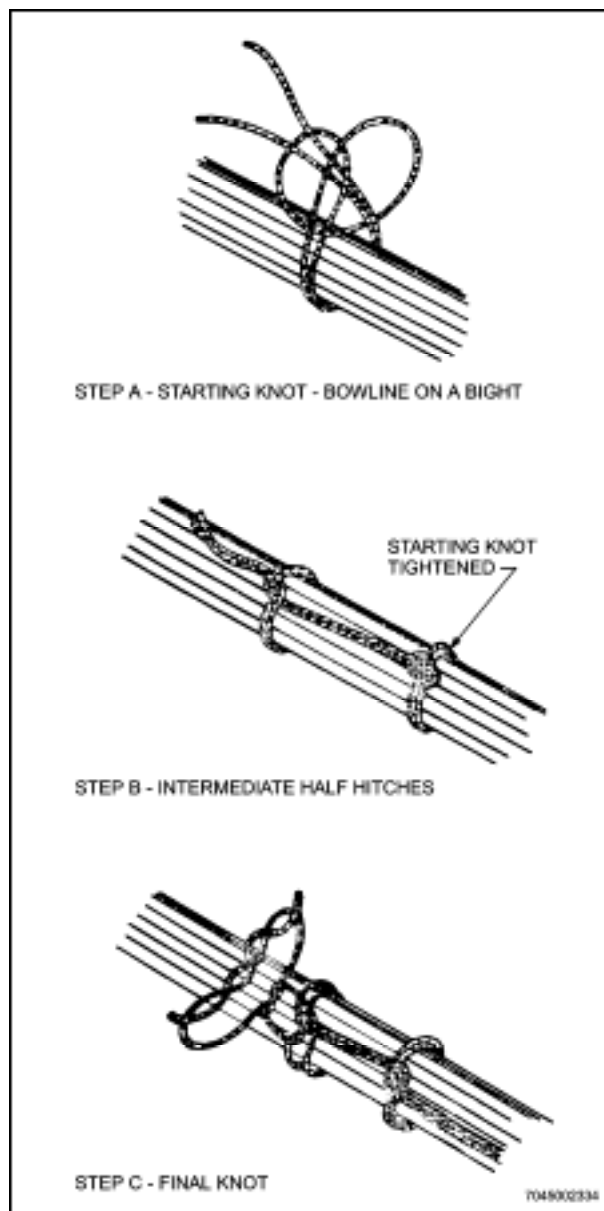

Figure 8-2 Double Cord Lacing
14. Lace a wire group or bundle with a double cord as follows (see Figure 8-2):
- c. End the lacing with a knot consisting of a half hitch, using one cord clockwise and the other counterclockwise, and then tying the cord ends with a square knot with an extra loop (see Figure 8-2).